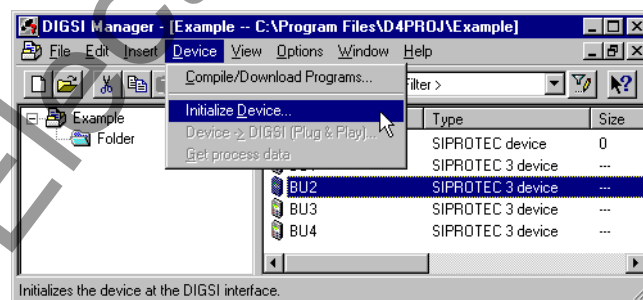

Figure 8-3 Initializing the device with DIGSI – Example
- Select in the menu bar under **Device** the option **Initialize Device** (Figure 8-3, page 290).